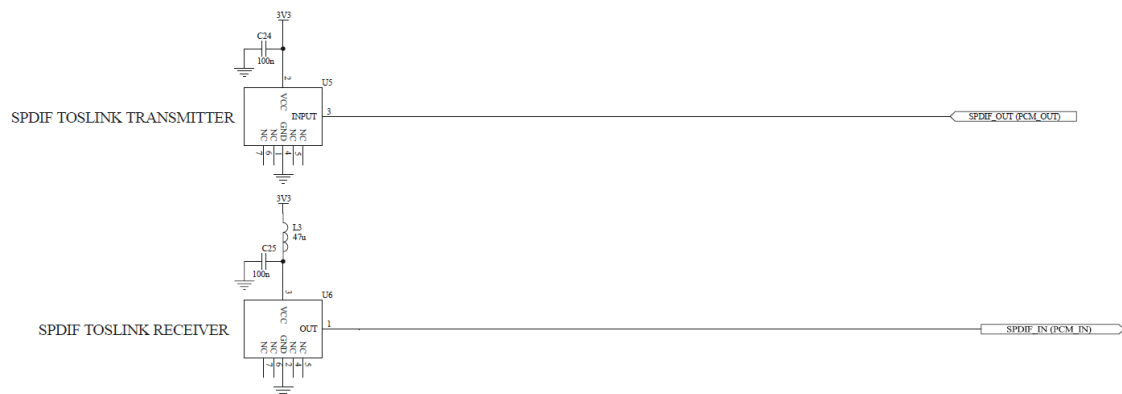

Figure 8.4.2 Example Circuit for SPDIF Interface (Optical)
- An optical link that uses Toslink optical components (Figure 8.4.2)